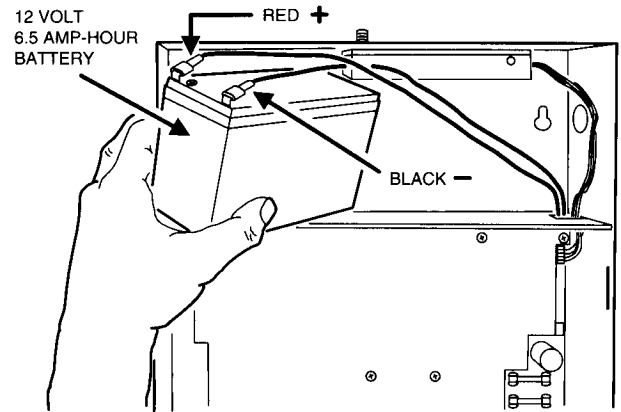

Figure 43. Backup Battery Installation
- STEP 2** Place the battery on the cabinet shelf above the main circuit board (see Figure 43).